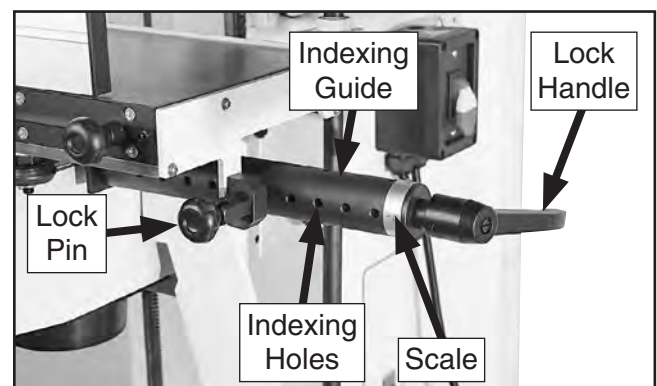

Figure 24. Indexing guide components.
1. Pull lock pin out and rotate it clockwise 90° to disengage indexing guide (see **Figure 24**).
- Loosen lock handle, rotate indexing guide to desired bore spacing shown on scale, then tighten lock handle to secure setting (see **Figure 24**).
- Rotate lock pin clockwise and move table to seat pin in desired indexing hole (see **Figure 24**) to lock table in position for drilling operation.